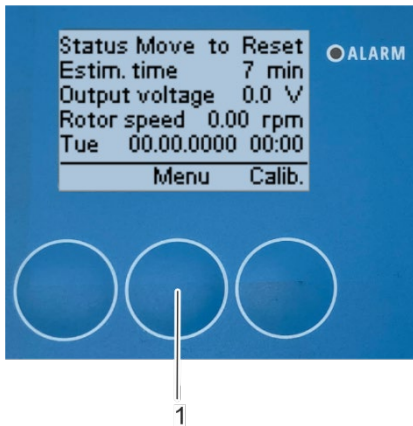
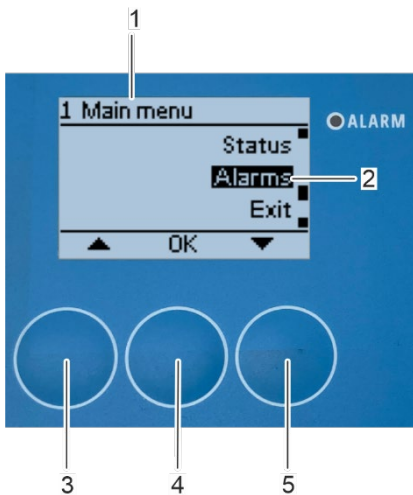

Fig. 182: Open main menu
Fig. 183: Open submenu "Alarms"
1. Press [Menu] (Fig. 182/1) to open the "1 Main menu" menu (Fig. 183/1).
⇒ The "1 Main menu" menu appears on the display (Fig. 183/1).
2. Select the "Alarms" submenu (Fig. 183/2) with the arrow keys [up] (Fig. 183/3) and [down] (Fig. 183/5).
3. Confirm the selection with [OK] (Fig. 183/4).